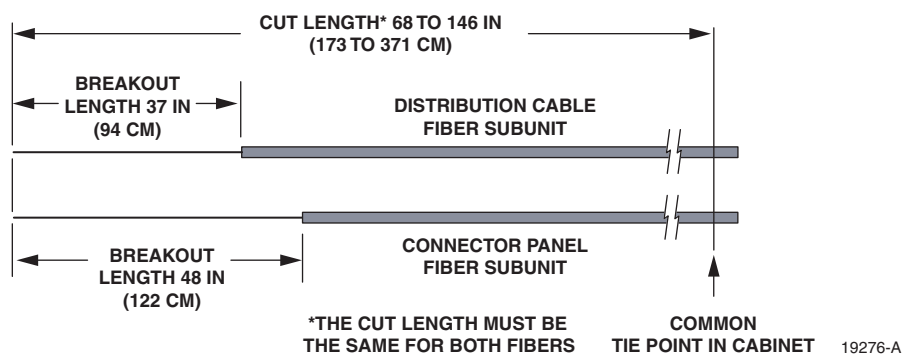

Figure 25. Cut Length and Breakout Length for Distribution Cable and Connector Panel Fibers
3. Starting at the last column (left side) of tie points on the rear side of the connector panel, measure and mark the fiber cut lengths for the distribution cable fiber subunits and the connector panel fiber subunits as shown in Figure 25.